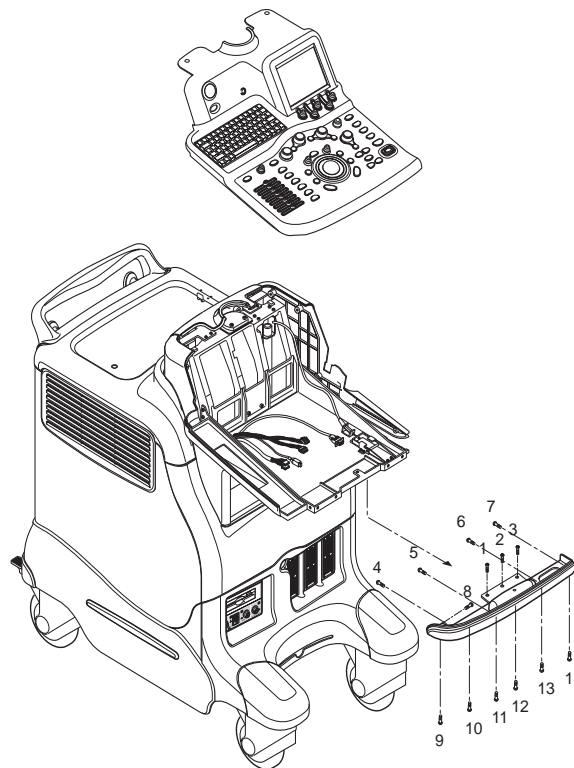

Figure 8-24 Removing Keyboard Front Grip
- 1.) Unscrew fourteen (14) screws (1-14). Refer to Figure 8-24.